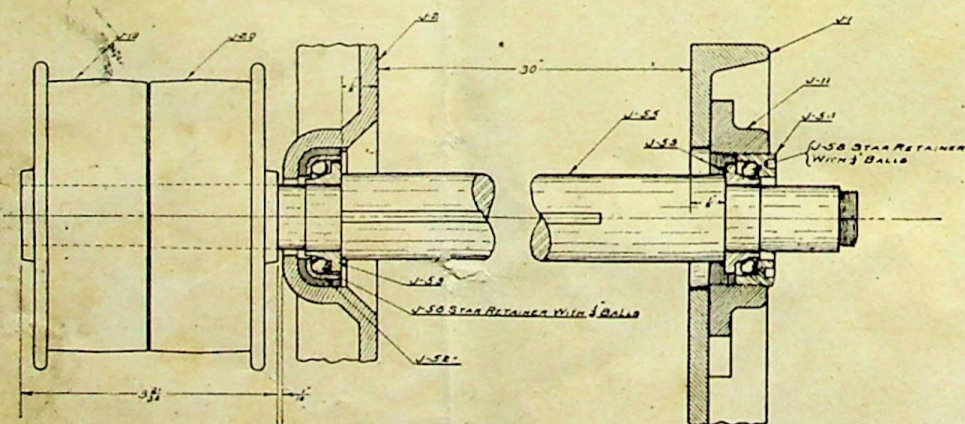

Fig. 6.
6. Keep the main shaft bearings adjusted so there is no lost motion. To take up the wear loosen the slotted set screw at the right-hand side and turn the ball cup case to the right, and tighten set screw. Be sure and keep the ball bearings oiled as they will cut if allowed to run dry. See Fig. 6.